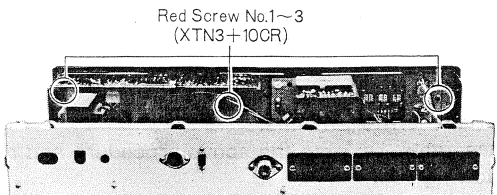

Fig. 17
- 6. Remove the three (3) red screws (nos. 1~3) for the front panel, as shown in fig. 17.